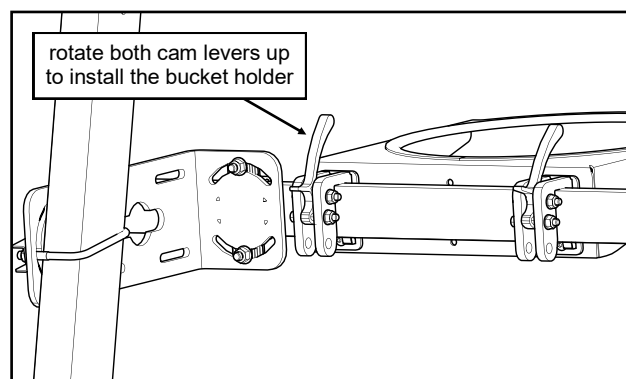

Fig. 2 (cam lever in the open position)
2. To install the bucket holder, rotate both cam levers UP, then place onto the Tool Bar. See fig. 2.